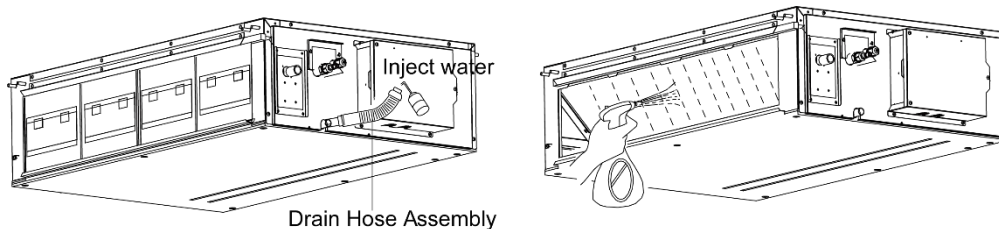

Fig19
- a. Inject approximately 1L of purified water into the drain pan from the air vent, being careful not to splash water onto the electrical components (e.g. water pump. Etc. Fig19).